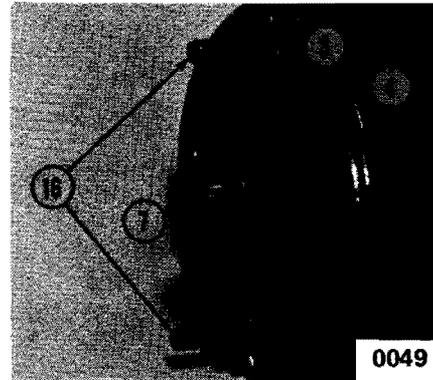

FIG. 34
To disassemble the brush end, first remove end cap (1) and refer to Fig. 34. Remove C-Washer (3) and thrust washers (4), then remove the two through-bolts (16).